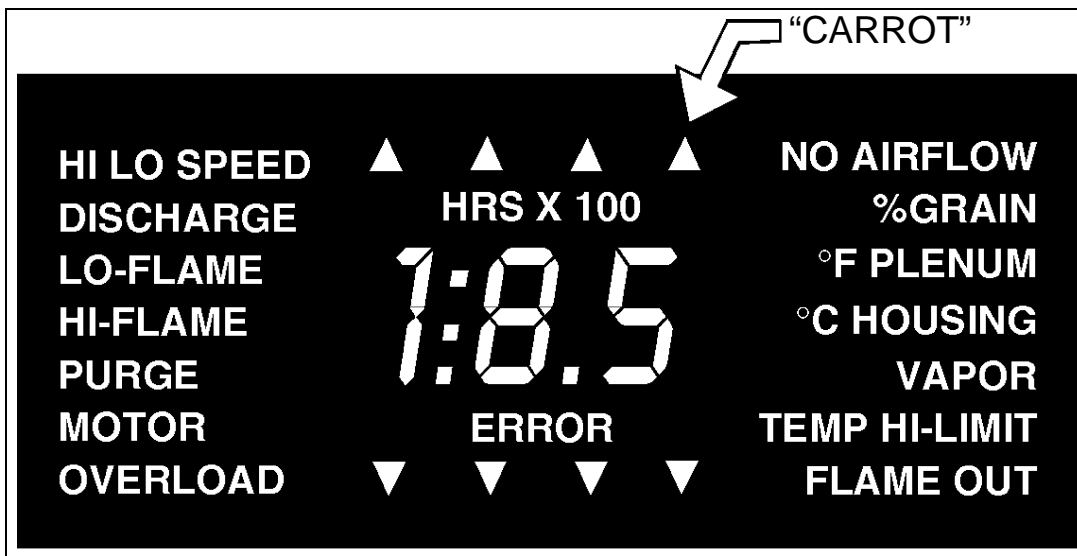

Figure 1C Dryer LCD Display
1. Press the Program (Timers) button until the “carrot” (See Figure 1C) is above the timer you want to modify.